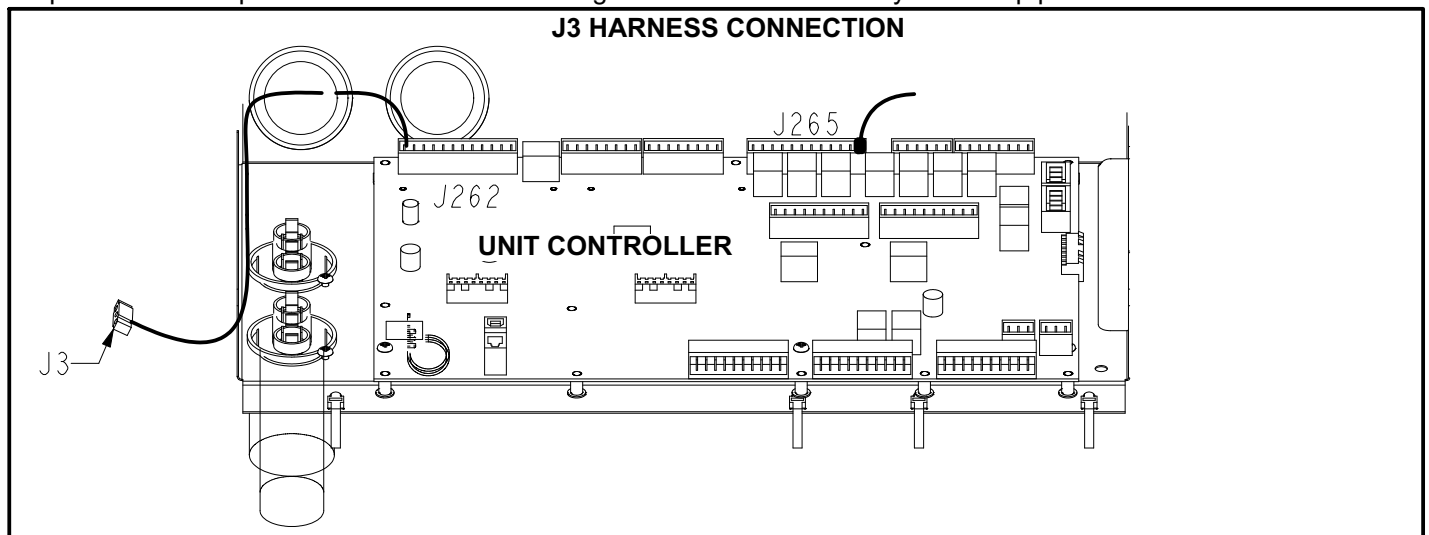
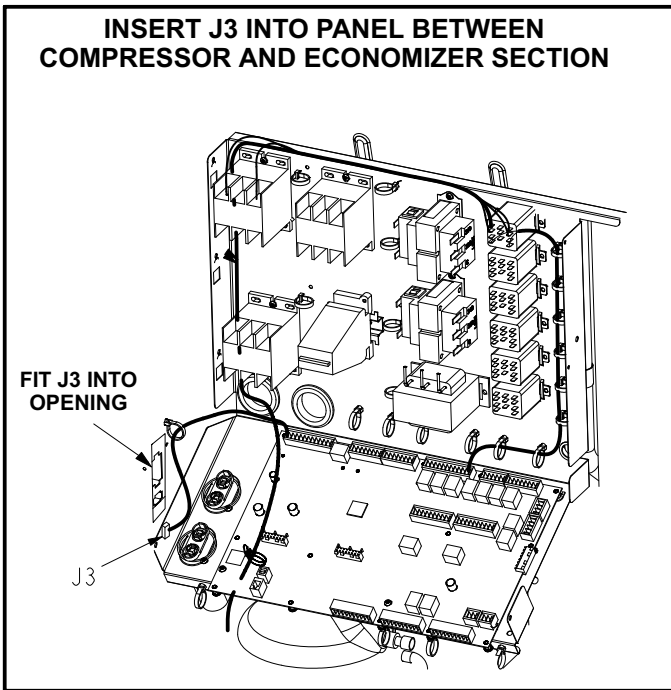

FIGURE 2
FIGURE 3
- 8- Connect J262A connector to P262 as shown in figure 2. Insert J3 from J262A harness into opening in unit wall as shown in figure 3.